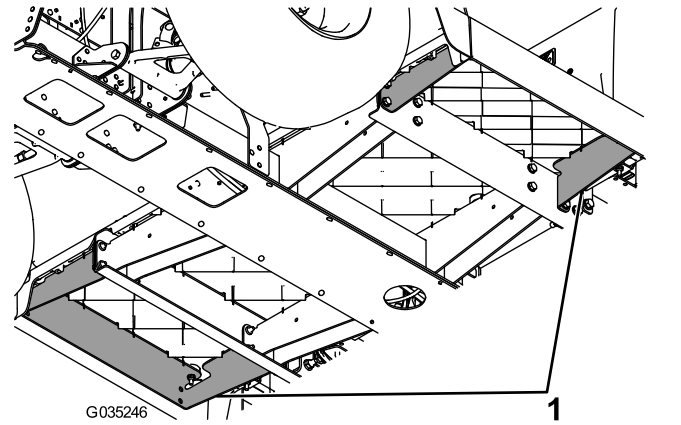

Figure 4
3. Remove 1 of the existing floor-plate supports (Figure 4).
- Remove the other existing floor-plate support (Figure 4).